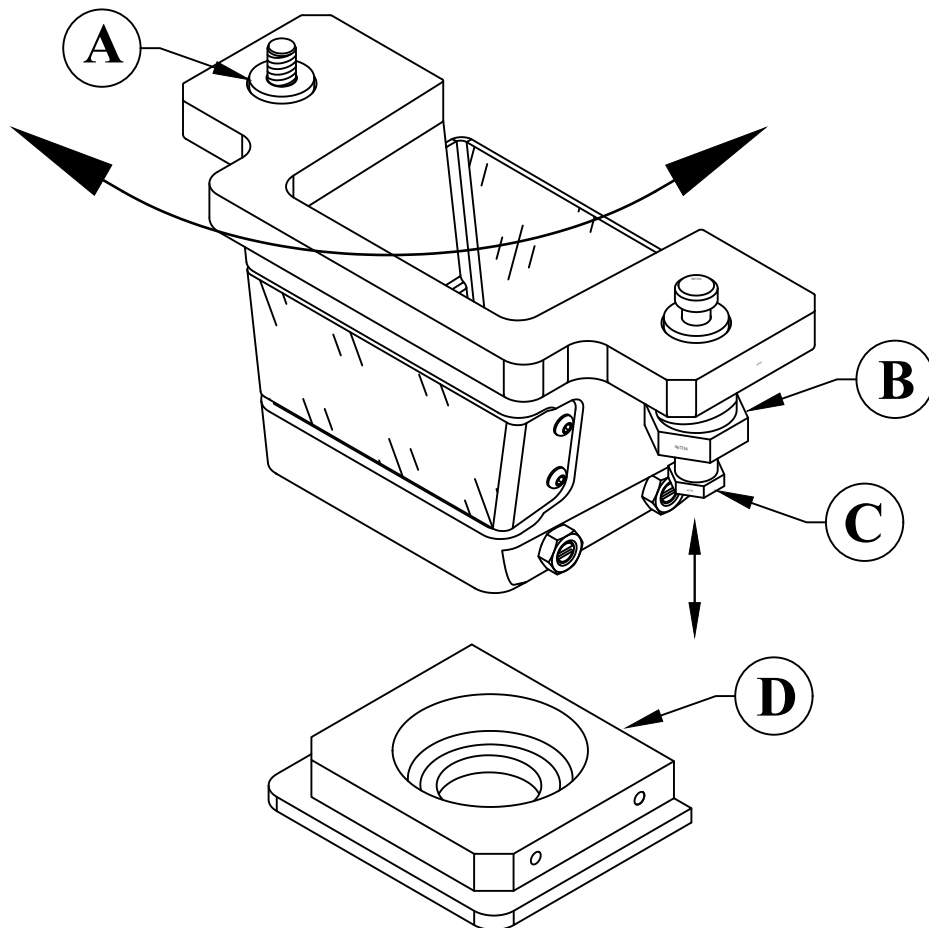

FIGURE 12
D. PROPER ADJUSTMENT OF THE STRIPPER - SEE FIGURE 12 ON THE FOLLOWING PAGE.